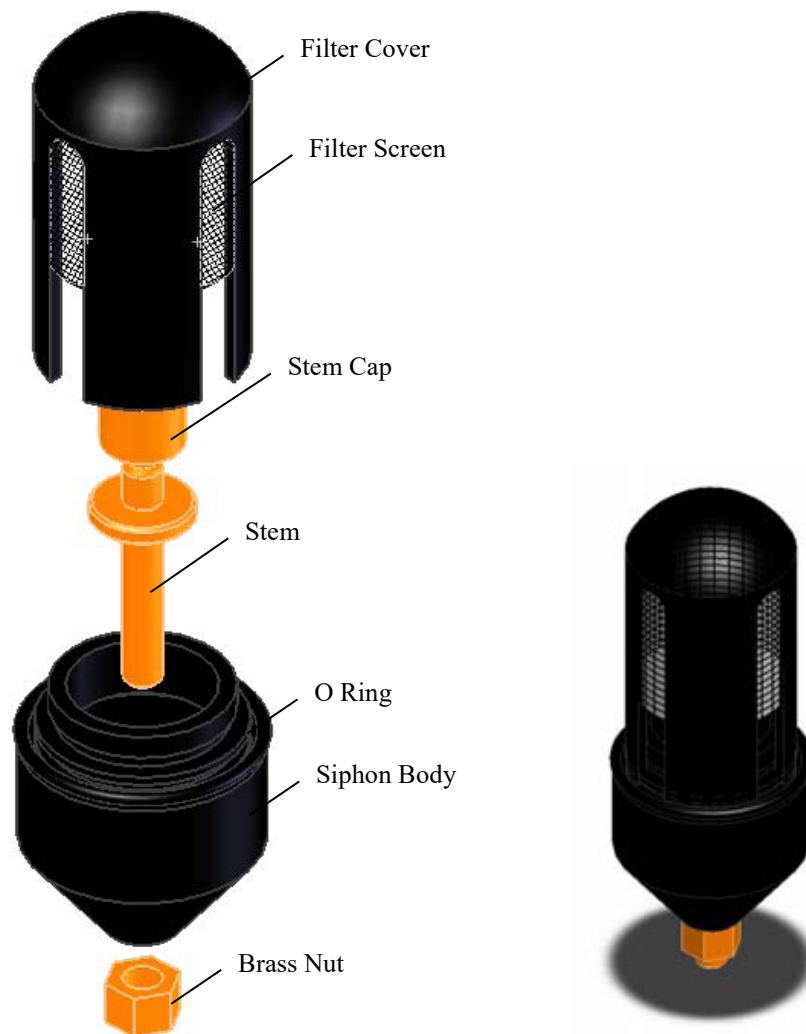

FIGURE 9-4. Filter/Siphon Assembly
3. Disassemble the filter/siphon assembly by doing the following (FIGURE 9-4):
1. Screw cap on stem; finger tighten only (FIGURE 9-4).
2. Push stem into siphon body (FIGURE 9-4).
3. Replace nut and tighten (FIGURE 9-4).